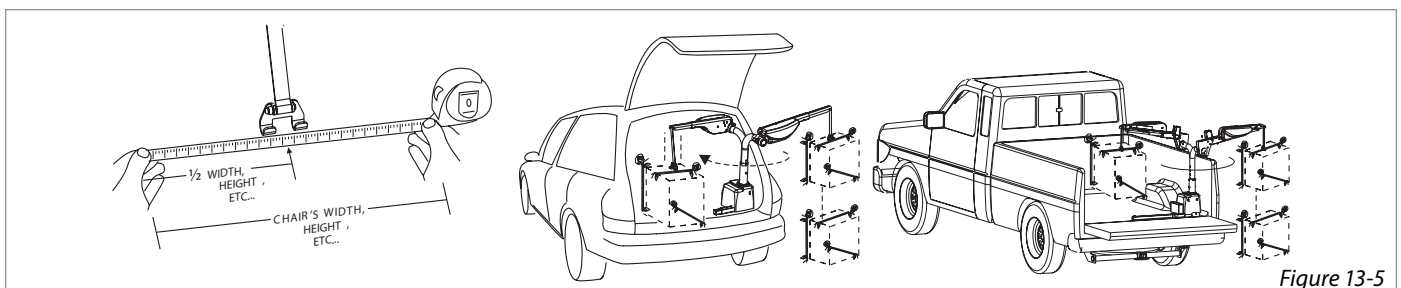

Figure 13-5
4. **Simulate each of the chair's dimensions** (length, width and height) while running the lift through its full range of motion in and out of the cargo area. [Figure 13-5 Bottom]